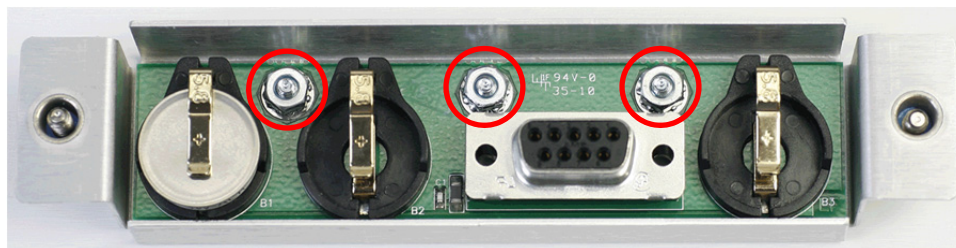

Fig 3 Software Option module (with one iButton installed).
5. Remove the three 6-32 nuts (circled in Fig 3) that secure the Software Option module circuit board (BSWO.0000) and remove it from the metal enclosure. Save the nuts for reinstallation. Note that it is not necessary to remove the iButton(s) to perform the modification.